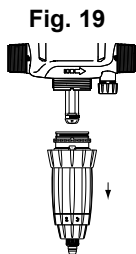

Fig. 19
- Pull downwards to remove the injection assembly (Fig. 19).